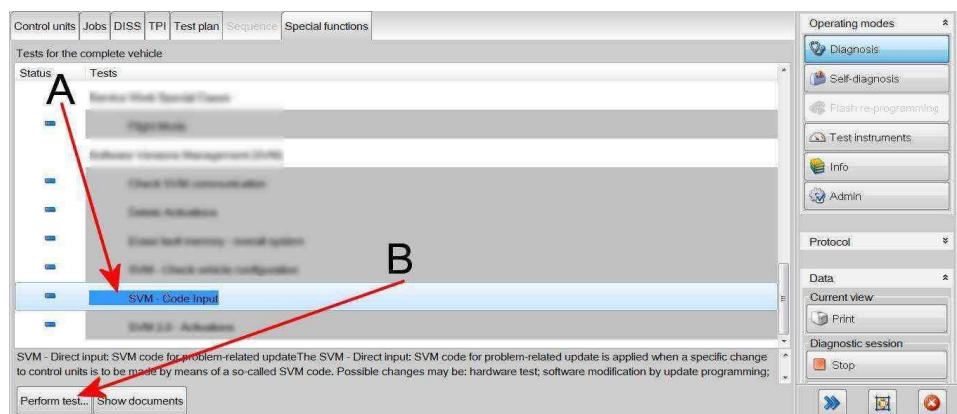

Figure 1
- Because of the highest transmission stability you **MUST** use the diagnosis interface VAS 6154 (WiFi diagnostic tool) **ONLY** in USB operation or the cable-connected VAS 5055 for the reprogramming (updating) of control units. If these units are not available, the diagnosis interface VAS 5054 (A) can also be used in USB mode
- Referring to Figure 1 - Within the Special functions tab - Select SVM - Code Input (Point A)